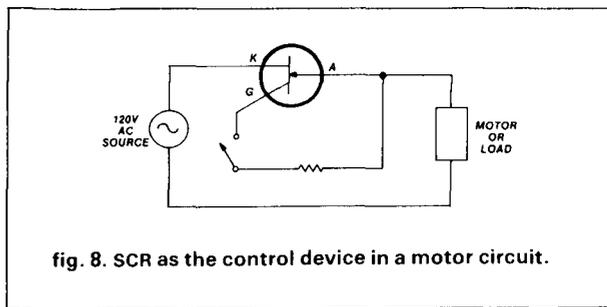

fig. 8. SCR as the control device in a motor circuit.
A *silicon-controlled rectifier* (SCR) is an NPNP, or four-layer semiconductor device. It has a cathode (K), an anode (A), and a gate (G), as indicated in the SCR circuit in **fig. 8**. In this circuit, with the switch open, regardless of which half of the ac is considered, at least one of the NPNP junctions will be re-